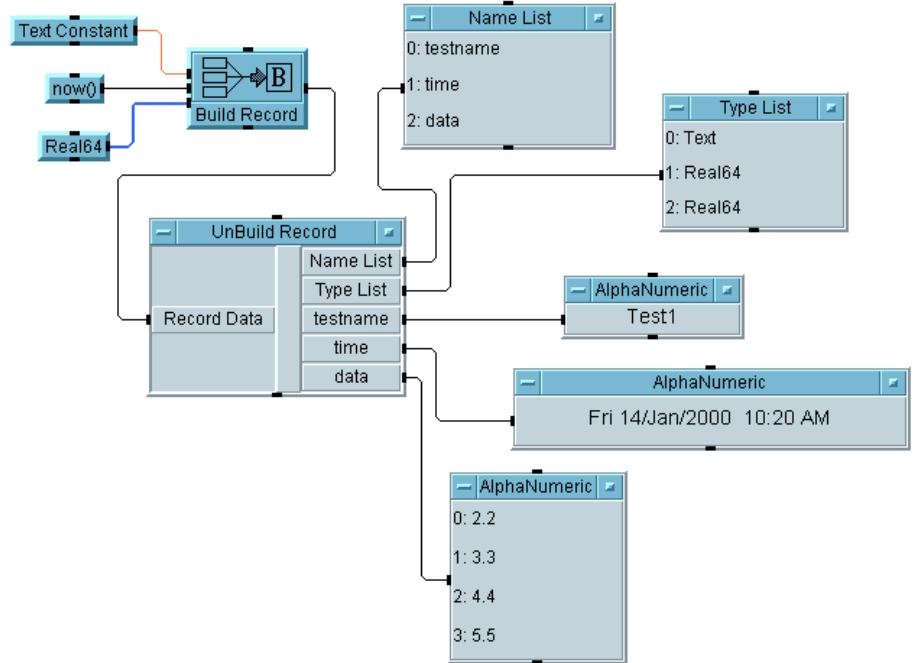

Figure 5-13. Using the UnBuild Record Object
4. Run the program and save it as unbuild.vee. It should look like Figure 5-13.